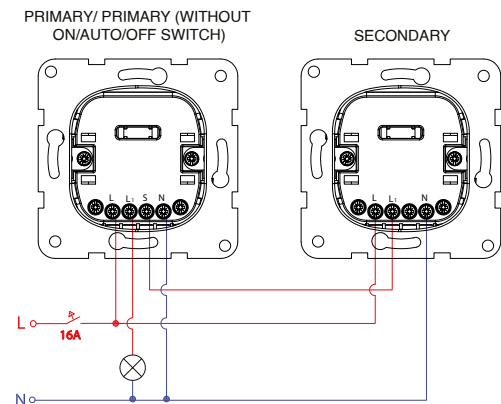

Figure 3b: Connection for Primary/Primary(Without On/Auto/Off Switch)-Secondary (max. 1 Primary / 19 Secondary Parallel Connection)
• Figure 3b shows the Primary/Primary (Without On/Auto/Off Switch) - Secondary wiring diagram. In here, it is necessary to select either Primary or Primary (Without On/Auto/Off Switch) devices. **The secondary device is only suitable for joint use with primary devices. No load should be connected to its output.**